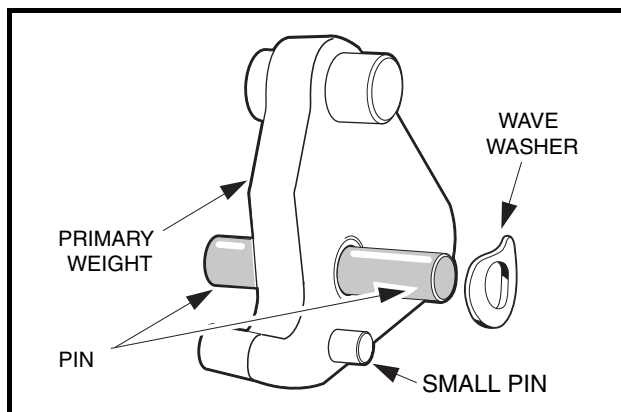

Figure 20-10 Install Pin and Washer
- 5.3. Before removing, note the orientations of the wave washer and of the primary and secondary weights to one another (Figures 20-10 and 20-11, Page 20-8). Remove the plastic washers, weights and wave washer from the pin. Retain all parts.
7. Install the primary weights on the mounting pins (**Figure 20-10, Page 20-8**).
8. Install a wave washer on each mounting pin. Make sure that the concave side of the washer faces the side of the primary weight with the small guide pin protruding from it (**Figure 20-10, Page 20-8**).